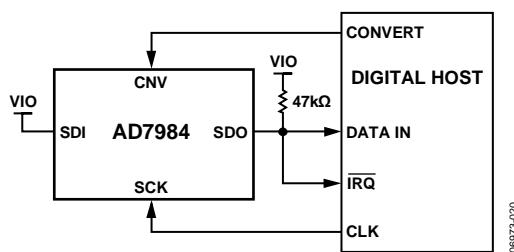
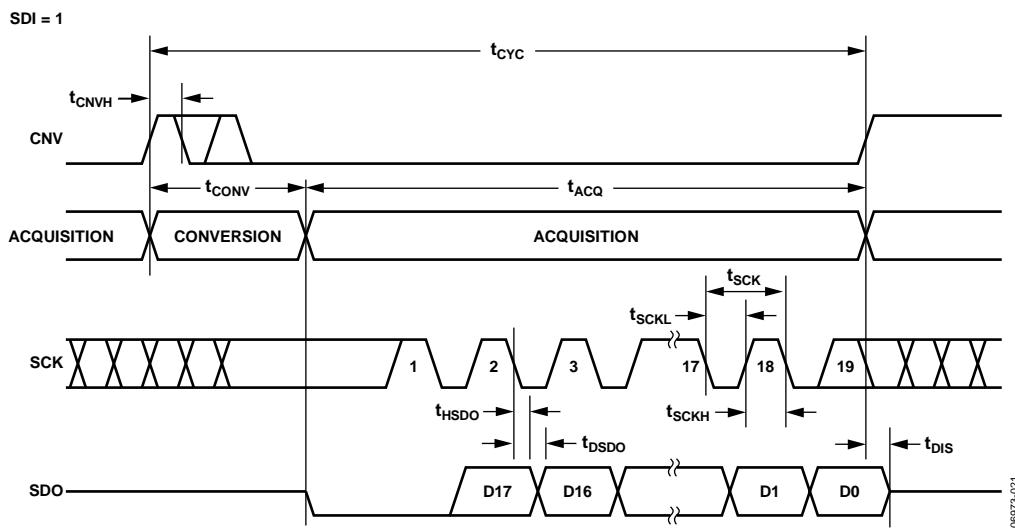
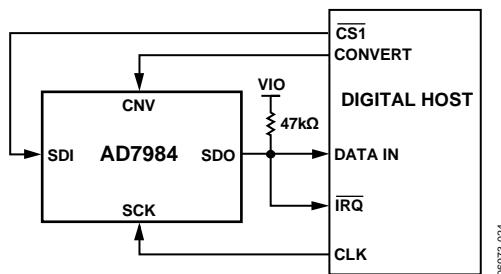
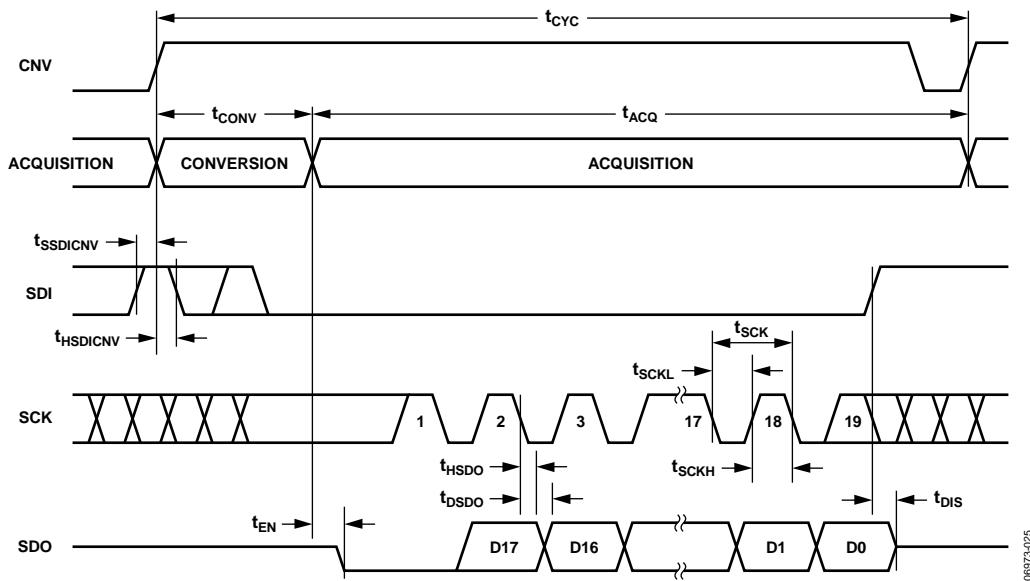

Figure 30. \overline{CS} Mode, 3-Wire with Busy Indicator Connection Diagram (SDI High)
Figure 31. \overline{CS} Mode, 3-Wire with Busy Indicator Serial Interface Timing (SDI High)
Figure 34. CS Mode, 4-Wire with Busy Indicator Connection Diagram
Figure 35. CS Mode, 4-Wire with Busy Indicator Serial Interface Timing
- In $\overline{\text{CS}}$ mode if CNV or SDI is low when the ADC conversion ends (see Figure 31 and Figure 35).
The connection diagram is shown in Figure 30, and the corresponding timing is given in Figure 31.
The connection diagram is shown in Figure 34, and the corresponding timing is given in Figure 35.